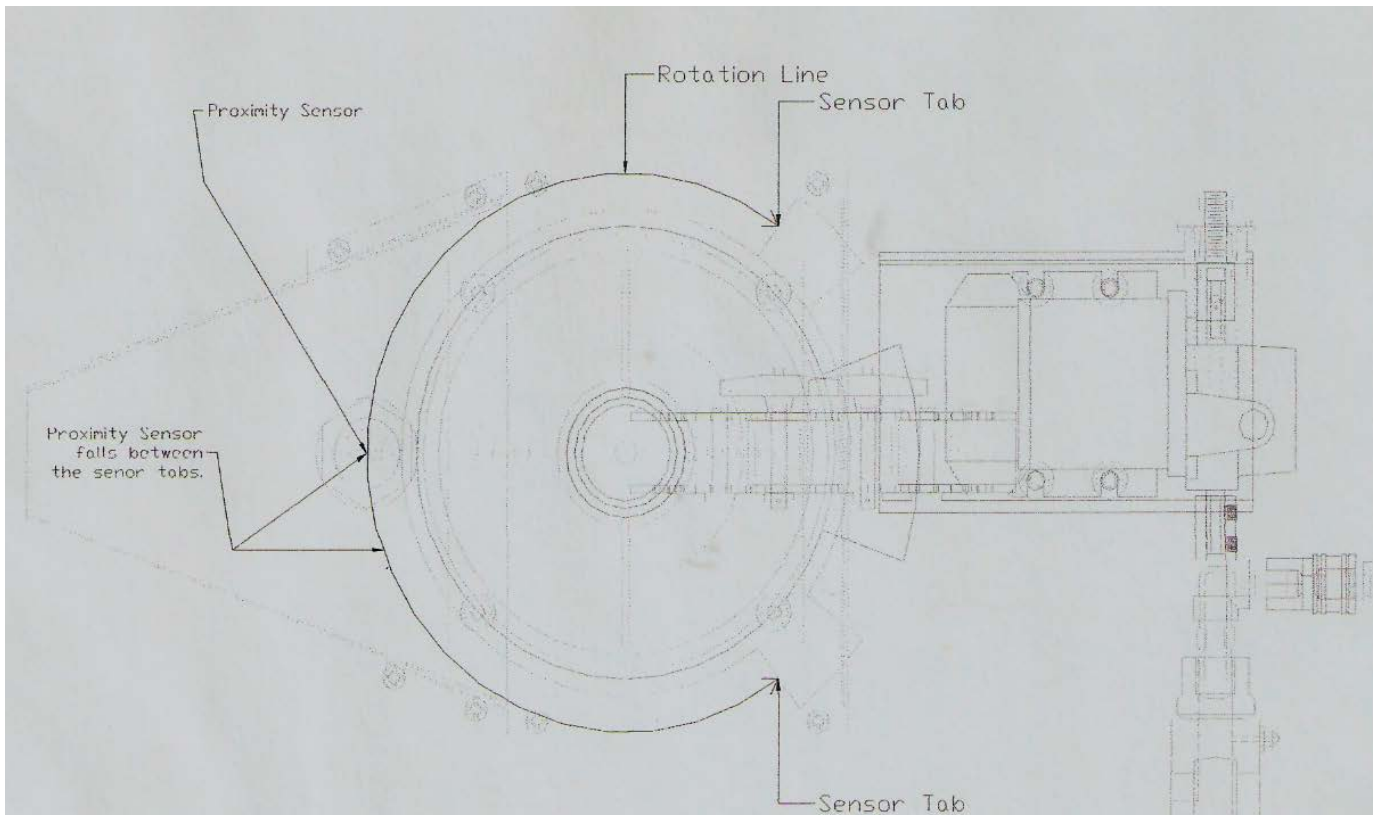

Figure 2.8 Desired Rotation Angle
2.3.1 Determine the angle of rotation of the arm. See Figure 2.8.